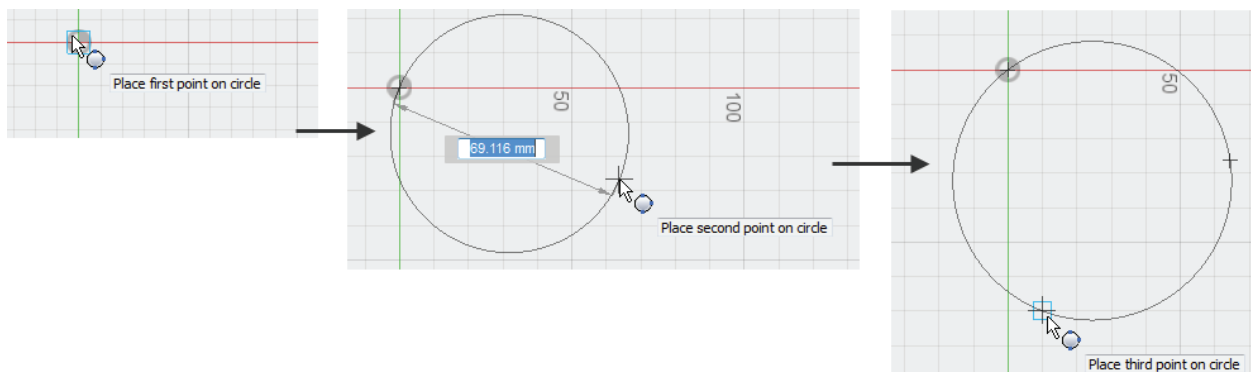

Figure-14. Creation of 3-point circle
- Click on the screen to specify the first point, second point and third point of circle; refer to Figure-14.